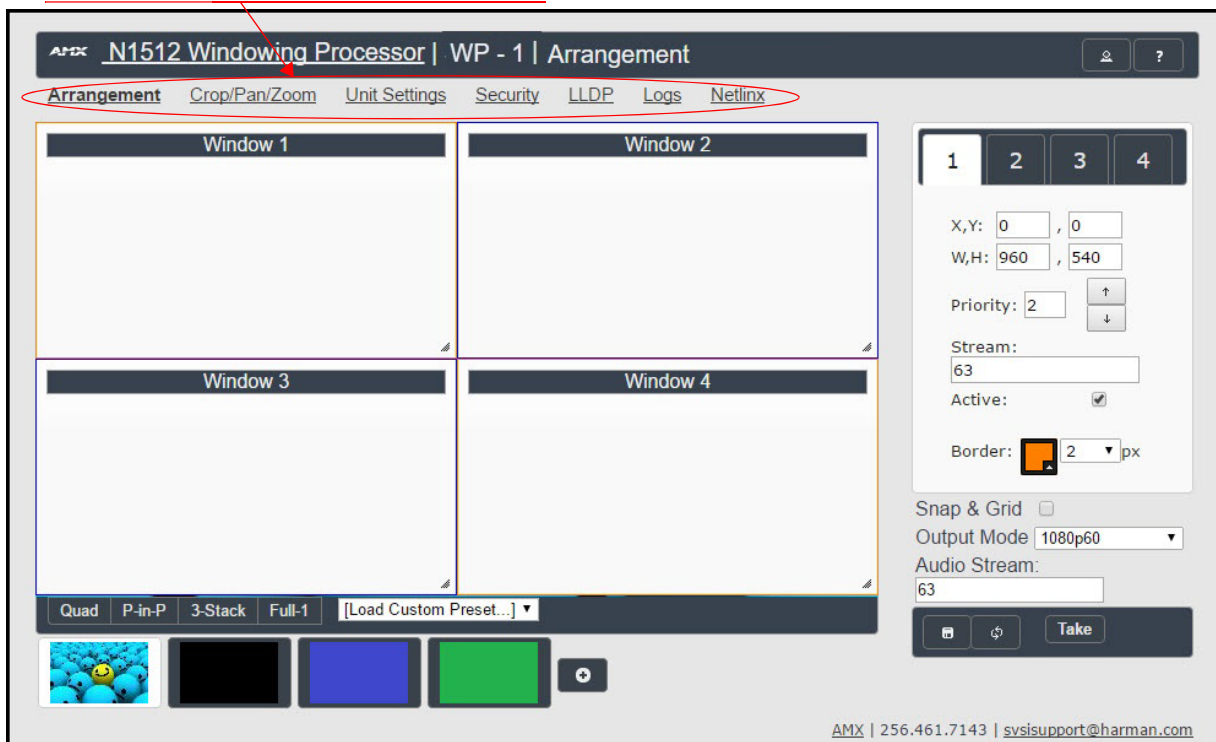

FIG. 5 ARRANGEMENT PAGE
2. The Arrangement page is displayed (see Figure 5).